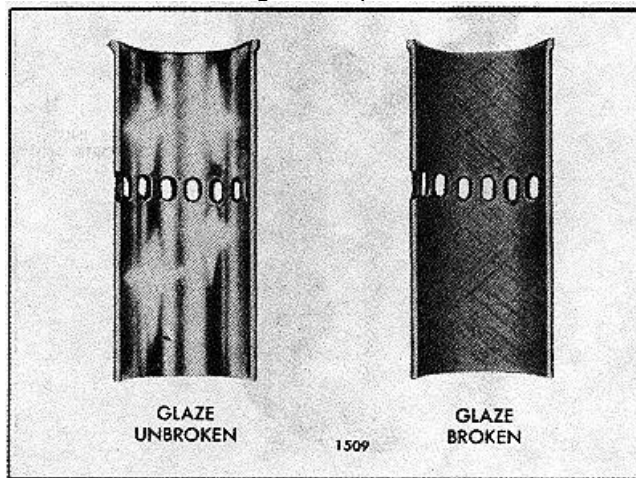

FIG. 4 Glazed Surface of Cylinder Liner
1. To break the glaze (Fig. 4) due to the rubbing action of the piston rings which results after long periods of operation. Unless this glaze is removed, the time required to seat new piston rings will be lengthened.